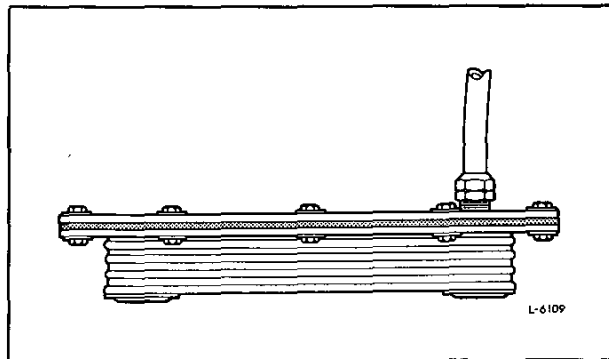

Fig. 4 - Preparing Oil Cooler Core for Pressure Test
1. Make a suitable plate and attach it to the flanged side of the cooler core. Use a gasket made from rubber to assure a tight seal. Drill and tap the plate prior to mounting to permit an air hose fitting to be attached at the inlet side of the core (Fig. 4).